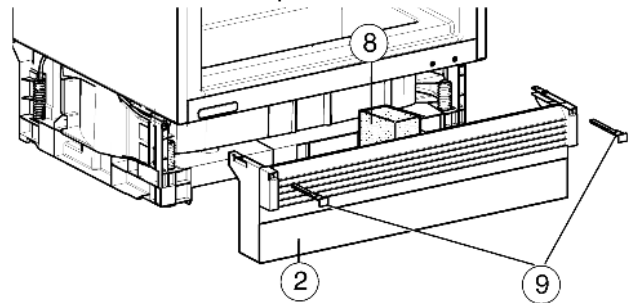

Fig. 13
- Insert the foam element Fig. 13 (8) - functionally important for separate air currents!
- Reinstall the plinth trim Fig. 13 (2).
- If the plinth trim Fig. 13 (2) is visible, pull it forward as far as possible so that the front edge of the ventilation grid and the unit plinth trim lie flush.
- If the plinth trim Fig. 13 (2) is covered, push it fully back.
- Make sure the ventilation slots are completely unobstructed: If necessary, crop the height of the unit plinth trim (U)!
- ▷ Adjust the height of the rack (V) below the appliance plinth trim along the width of the recess (W).
- Affix the plinth trim: Keep a steady grip on the plinth trim and insert the latch Fig. 13 (9).